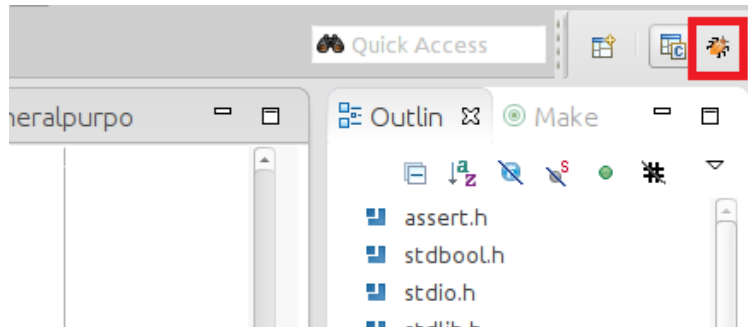

Figure 12-13. Switching to the DS-5 Debug Perspective
20. Switch to the *DS-5 Debug* perspective, as shown in Figure 12-13.